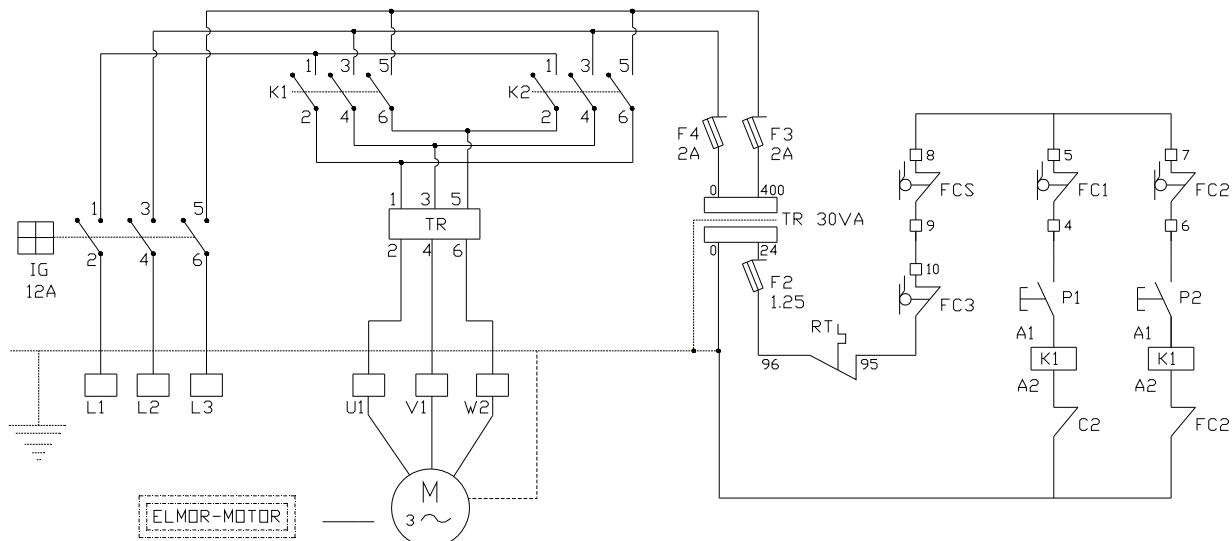

Fig.42
3. Close the electric panel, set the master switch (ref "IG" in Fig. 42) to position , then press the LIFT button; if the carriages descend, invert 2 of the phase lines.